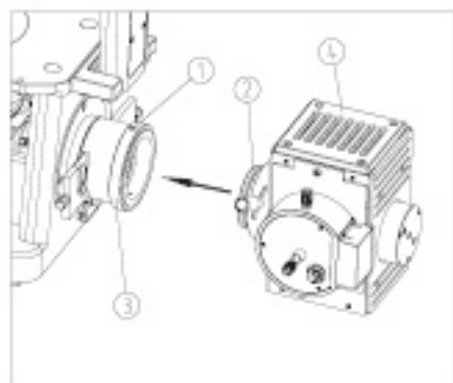

Figure 9
(1) Loose screw 1 with M4 inner hexagon spanner. (Fig.9)
(2) Insert the light source with mercury bulb 2 into fluorescence connector 3, and rotate 2 to make its upper plane 4 as horizontal, then tight the screw 1 with M4 spanner.